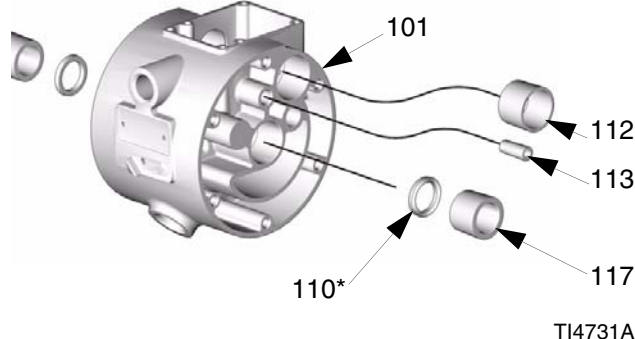

FIG. 22
8. Inspect the diaphragm shaft (121) for wear or scratches. If it is damaged, inspect the bearings (117) in place. If the bearings are damaged, refer to page 24.
9. Reach into the center housing (101) with an o-ring pick and hook the u-cups (110), then pull them out of the housing. This can be done with the bearings (117) in place. See FIG. 22.
8. If you removed the diaphragm shaft bearings (117) reach into the center housing (101) with an o-ring pick and hook the u-cups (110), then pull them out of the housing. Inspect the u-cups. See FIG. 22. Replace parts as needed.